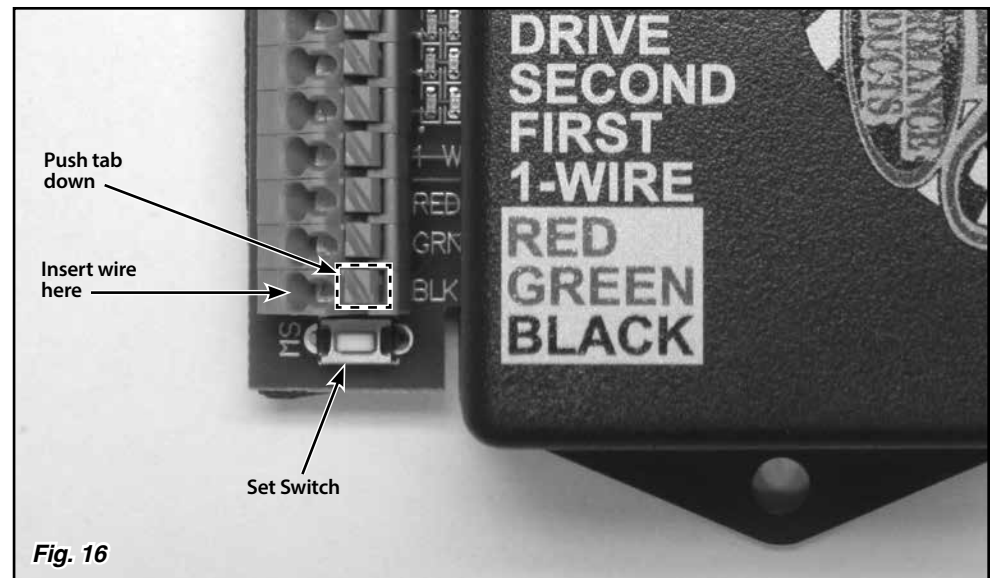

Fig. 16
The sensor has a 10 foot long gray cable attached to it. This cable contains 3 wires which connect to the decoder box. To connect the wires to the decoder box, push down on the tab to insert the wire into the terminal on the decoder box. Fig. 16 Connect the red wire to the terminal marked "RED". Connect the green wire to the terminal marked "GREEN". Connect the black wire to the terminal marked "BLACK".
Step 2: Press and hold the set switch. Fig. 16 Turn the ignition key on while holding the set switch down. Then, release the set switch.